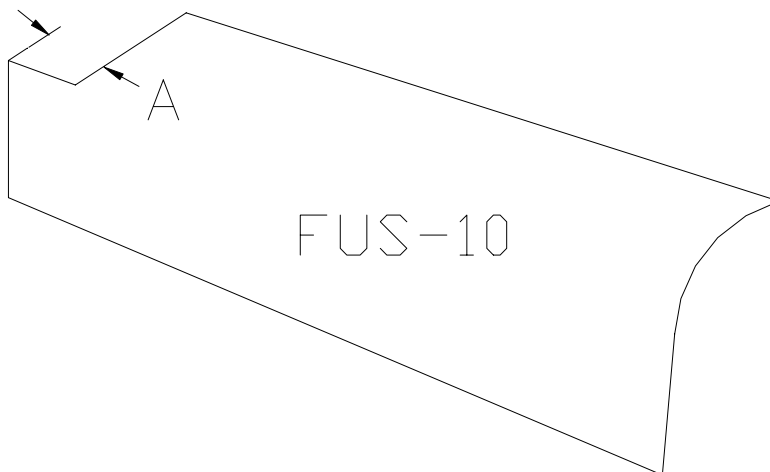

Figure 9.20.1
- 1) Prepare a Tapered Corner Wrap for the right hand top corner of the nose by notching it to clear the FUS-04 Upright. Figure 9.20.1.